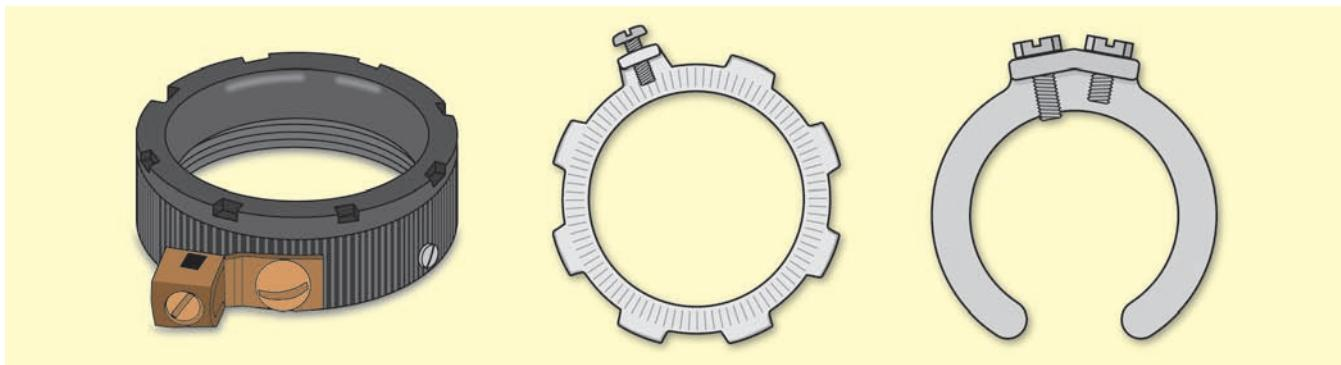

FIGURE 27-38 An insulating grounding/bonding bushing with grounding lug, a bonding locknut, and a bonding wedge. (*Delmar/Cengage Learning*)
more set screws) that ensure reliable bonding of the bushing to a metal raceway, in which case the bushing serves as a grounding and bonding bushing. These bushings are available with an insulated throat. See Figure 27-38. These are the most commonly used for bonding residential electrical services.
Grounding/bonding bushings, bonding wedges, grounding conductors, and bonding jumpers are installed to ensure a low-impedance path if a fault occurs. Bonding jumpers are required where there are concentric or eccentric knockouts, or where reducing washers are installed. NEC 300.4(F) states that if 4 AWG or larger ungrounded circuit conductors enter a cabinet, box enclosure or raceway, an insulating bushing or equivalent must be used, shown in Figures 27-38, 27-39, and 27-40. Similar insulating bushing requirements are found in 312.6(C), 314.17(D), 314.28(A), 354.46, and 362.46. Insulating bushings protect the conductors from abrasion where they pass through the bushing. Combination metal/insulating